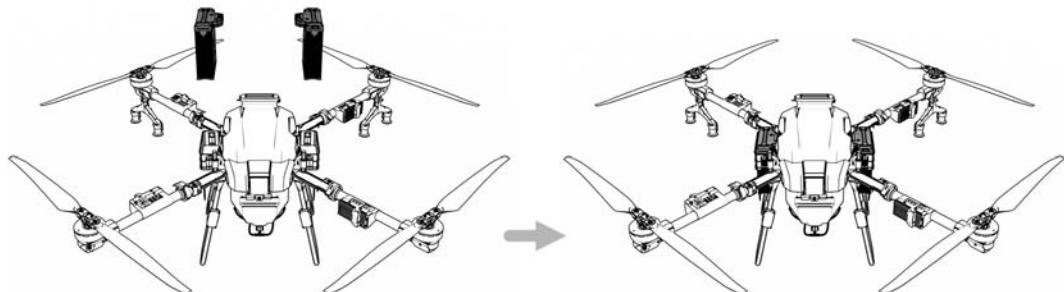

Figure 1-36 Insert the battery
Step 2: Connect the battery output port to the body, and the battery is locked in when you hear a "click". See Figure 1-36.